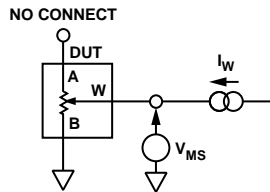

Figure 22. Resistor Position Nonlinearity Error (Rheostat Operation; R-INL, R-DNL)
- Resistor position nonlinearity error R-INL is the deviation from an ideal value measured between the maximum resistance and the minimum resistance wiper positions. R-DNL measures the relative step change from ideal between successive tap positions. Parts are guaranteed monotonic. See Figure 22 test circuit.